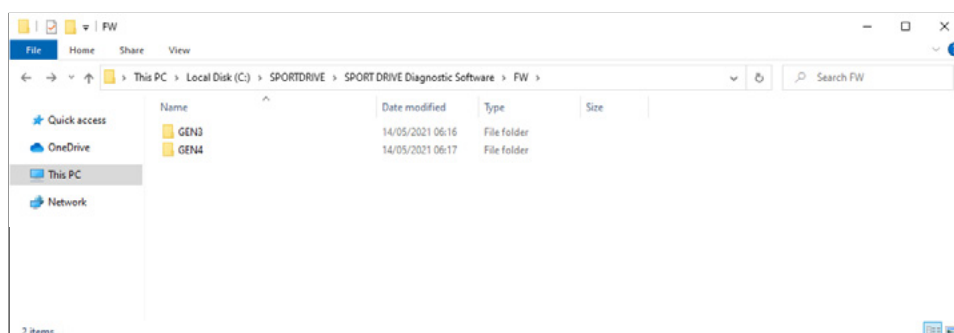
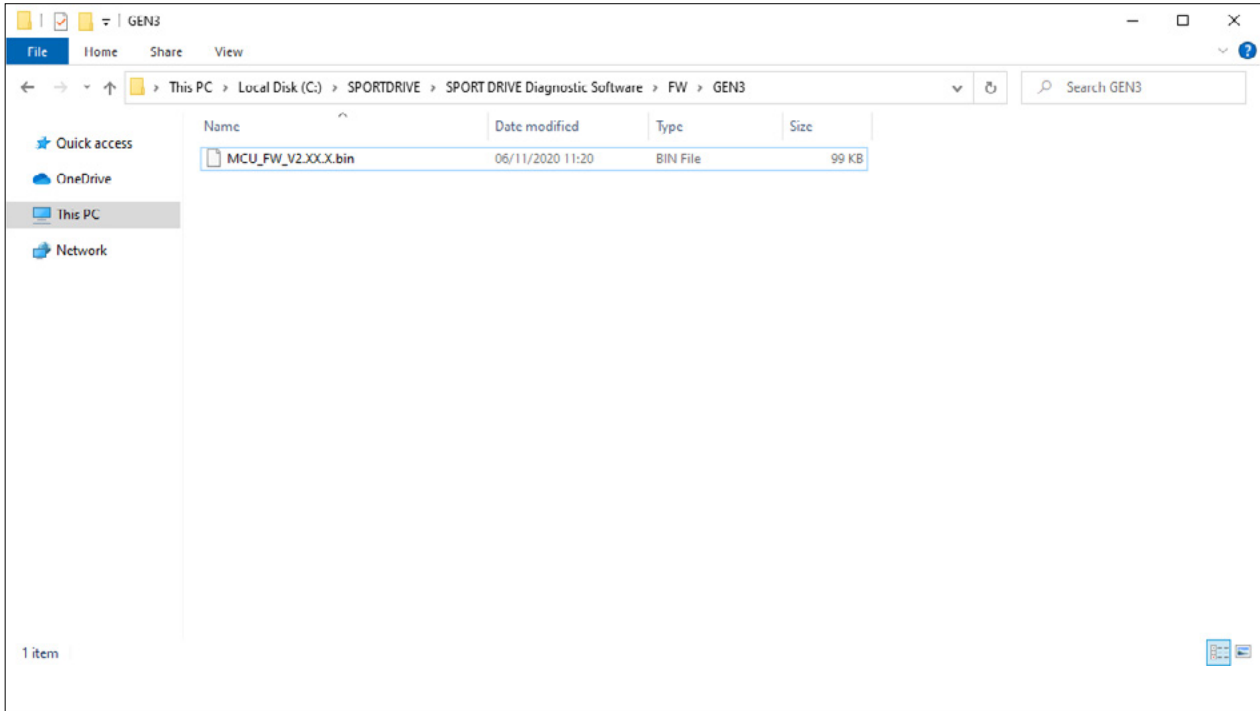
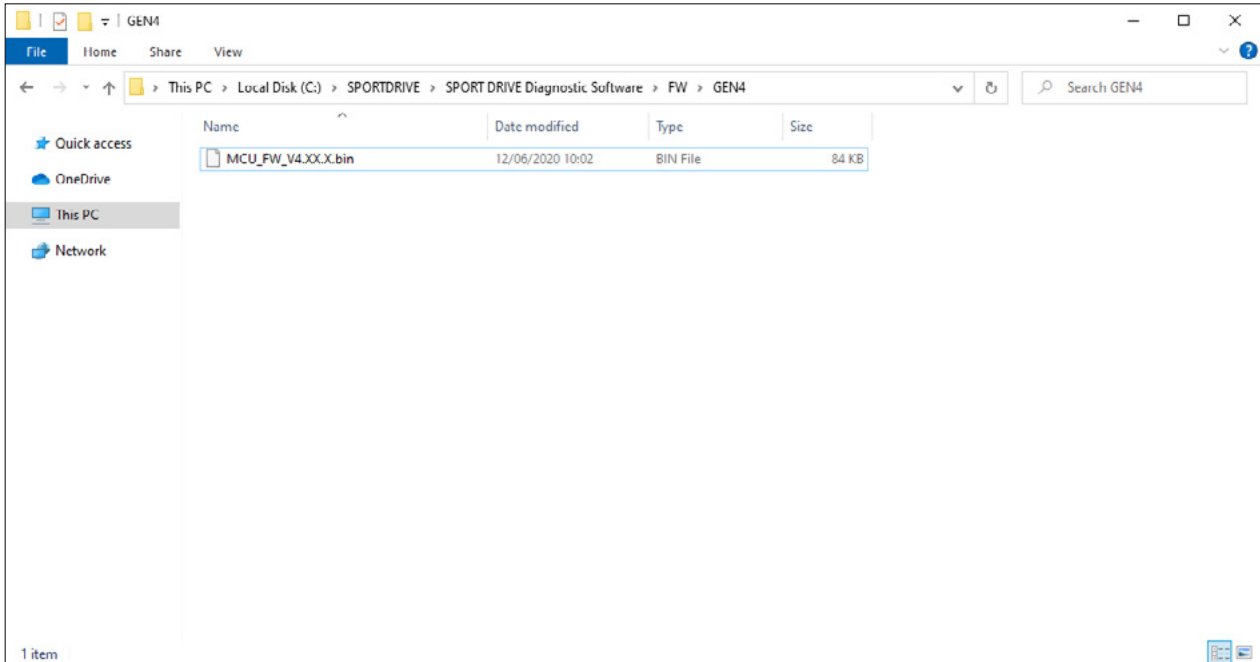

Figure 3.31 Firmware update - Selecting the folder
Figure 3.32 Firmware update - Selecting the file to update a third-generation bike
Figure 3.33 Firmware update - Selecting the file to update a fourth-generation bike
3. Two firmware files are available; if you need to update a third-generation bike, open the GEN3 folder (Fig. 3.31) and select the file named MCU_FW_V2.XX.XX.bin (Fig. 3.32) and press “Open” to start the update. If you need to update a fourth-generation bike, open the GEN4 folder (Fig. 3.31) and select the file named MCU_FW_V4.XX.XX.bin (Fig. 3.33) and press “Open” to start the update.